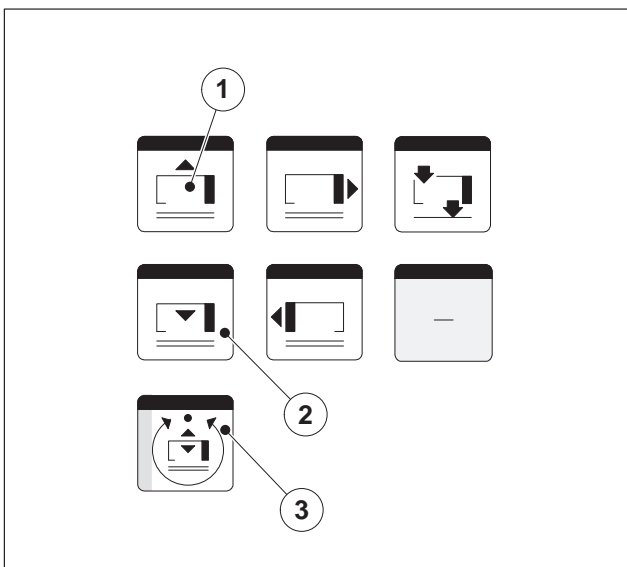

Fig. 19 Adjusting the button format
Pressing the *Front edge pile height control* button (Fig. 19/3) toggles between automatic mode and manual mode.
1. Press the *Front edge pile height control* button (Fig. 19/3) until the LED in the button is ON. The automatic front edge control mode is active.
- Press the *Suction head height adjustment up* button (Fig. 19/1) to increase the setpoint value.
- Press the *Suction head height adjustment down* button (Fig. 19/2) to decrease the setpoint value.
Automatic front edge control is switched off - the LED in the button (Fig. 19/3) is OFF.
- Press the *Suction head height adjustment up* button (Fig. 19/1) to move the suction head up.
- Press the *Suction head height adjustment down* button (Fig. 19/2) to move the suction head down.